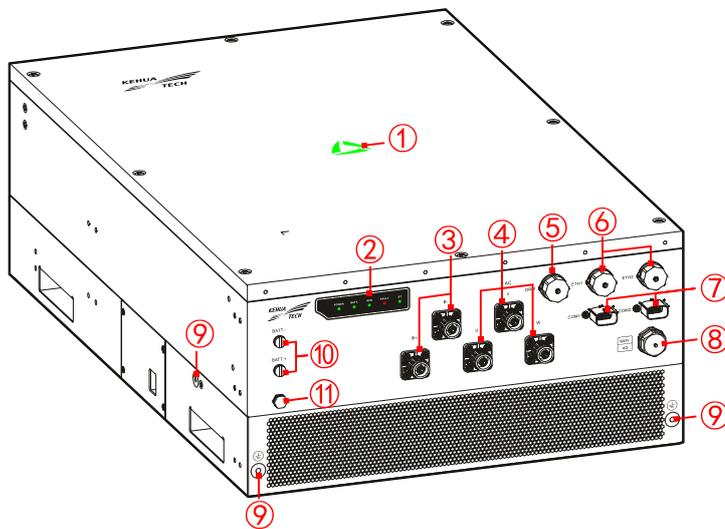

Figure2-5 Structure layout diagram
The structure layout of PCS is as shown in Figure2-5, corresponding components illustration please see Table2-1.
Ethernet communication (the interface is shown as ⑥ in Figure2-5) is mainly used for local area network monitoring, which can realize the background remote monitoring. The definition of Ethernet communication wire is as shown in Figure3-29. The default IP address of the PCS is 192.168.28.240.
RS485 communication (shown as ⑦ in Figure2-5, detailed pin definition as shown in Table2-4) is mainly used for local area network monitoring, which can realize the remote monitoring.